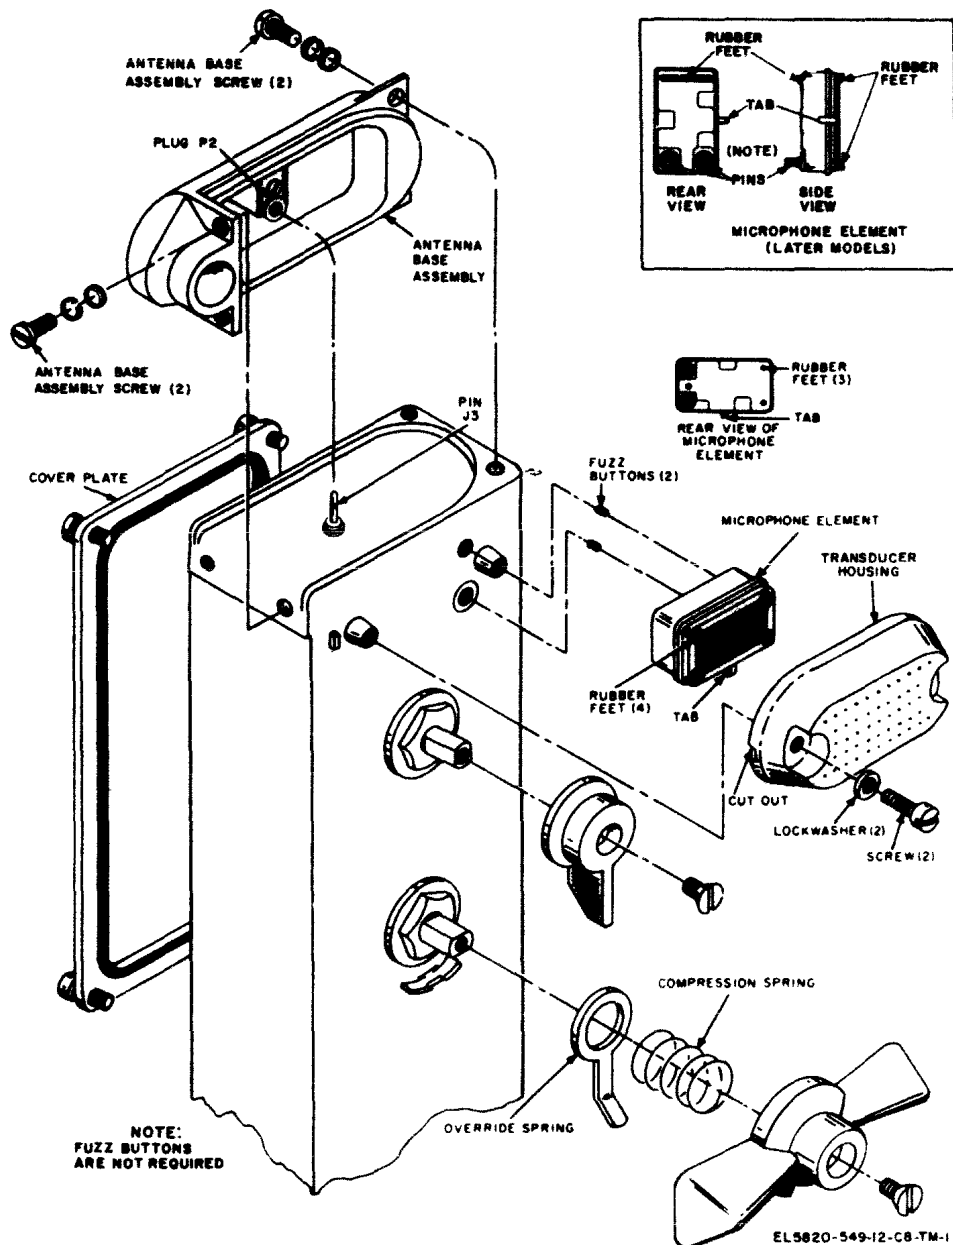

Figure 5-2. Transmitting Set, Radio AN/PRT-4, parts replacement.
(fig. 5-2)**
c. To replace components, position the components on the switch shaft. Refer to figure 5-2 for correct placement of parts under knob and correct knob position.